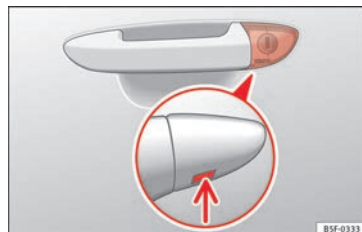

Fig. 194 Driver door lever: hidden lock cylinder.
- Insert the key shaft into the opening in the cover on the driver door handle from below » **Fig. 194** (arrow) then remove the cover upwards.